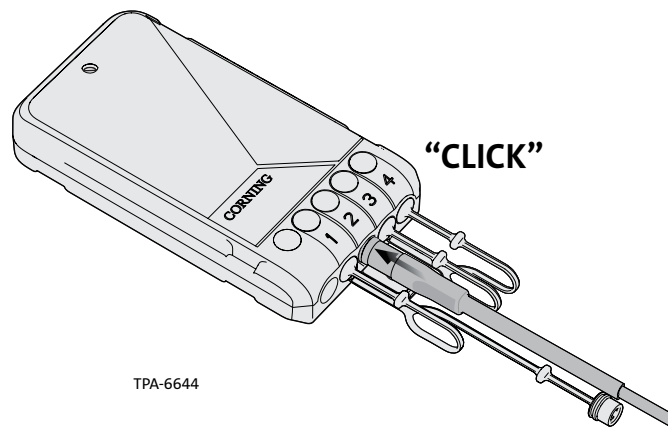

Figure 25
Step 3: Insert the drop connector into the terminal port, until the button clicks and the latch is engaged (Figure 25).